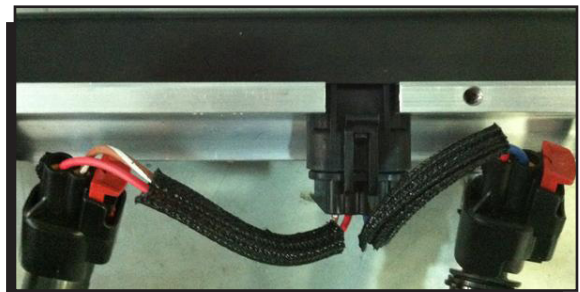

Figure 4
6. Connect the fuel injector pigtails to the injectors. The long wires connect to the injectors on each end of the fuel rail. The short wires connect to two inner injectors (Figure 4).